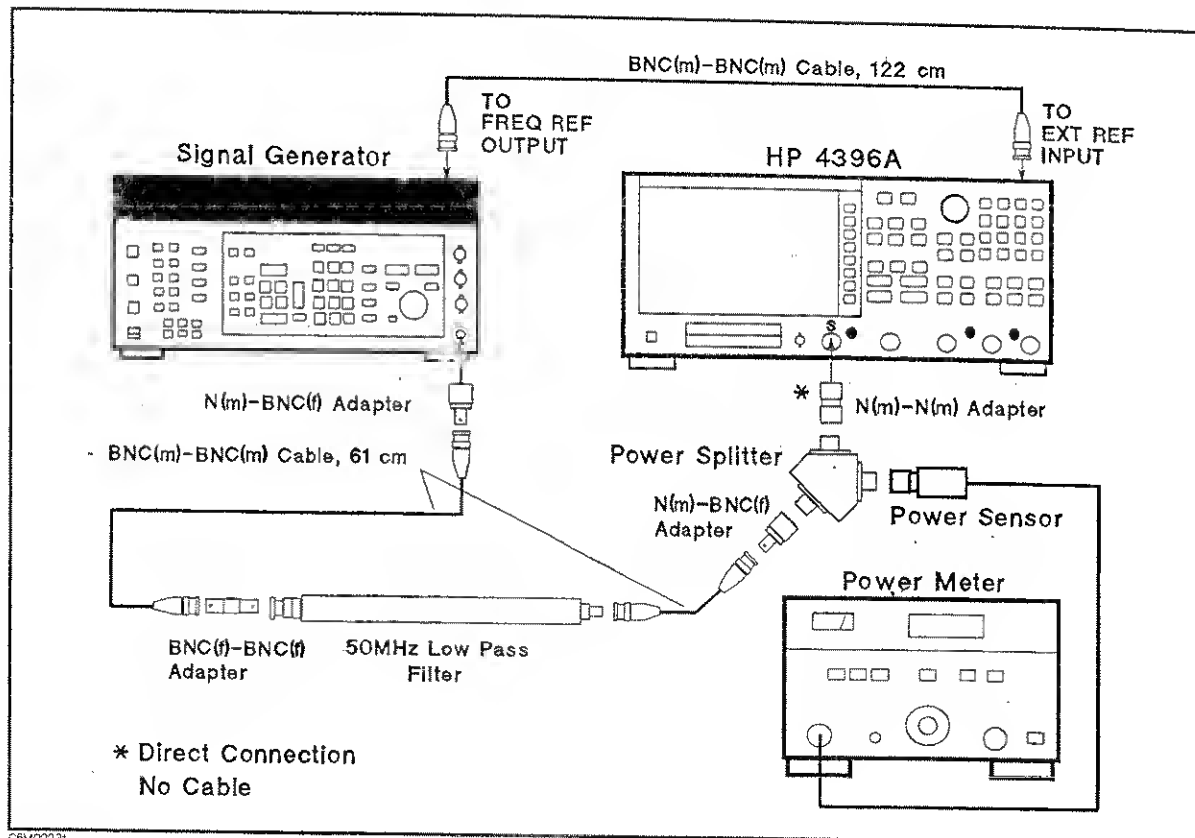

Figure 2-29. Second Harmonics Distortion Test Setup
2. Connect the test equipment as shown in Figure 2-29.
Connect the signal generator's 10 MHz frequency reference output to the HP 4396A EXT REF Input on the rear panel as shown in Figure 2-29. With this configuration, both the signal generator and the HP 4396A are phase locked to the same reference frequency to obtain a stable measurement.